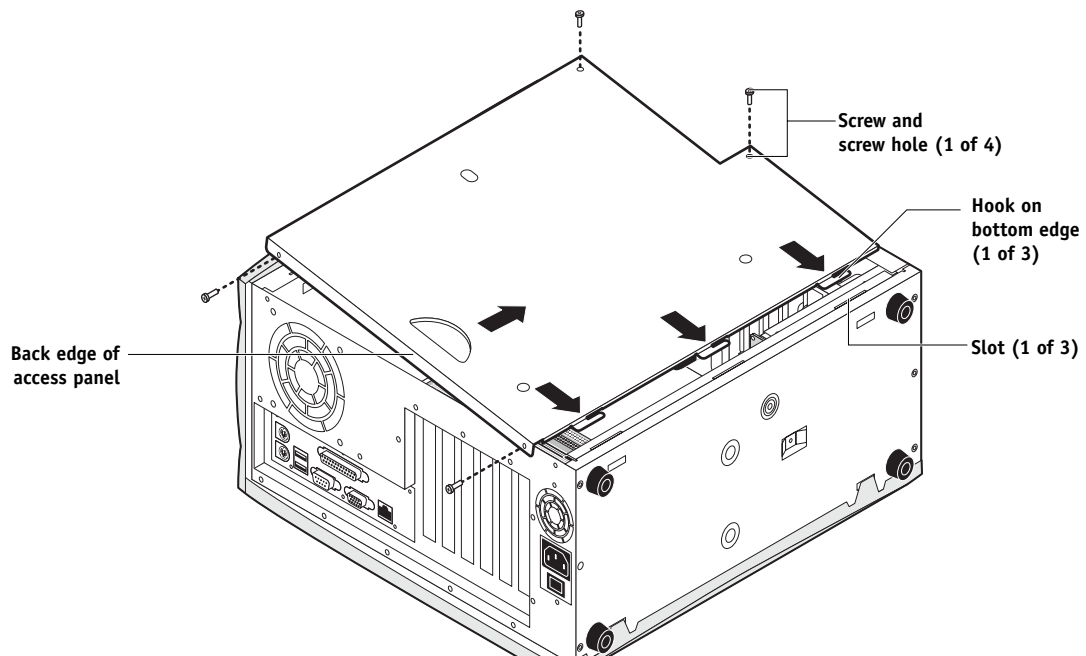

FIGURE 4-9 Replacing the access panel
4. Insert the hooks on the bottom edge of the access panel into the slots in the chassis, and then lower the access panel onto the chassis (see Figure 4-9).